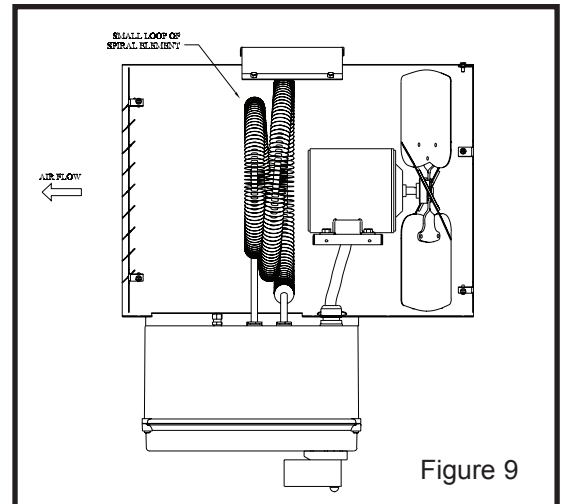

Figure 9
3. Install factory-supplied replacement elements such that the smallest loop of the spiral element is closest to the discharge end of the heater (see figure 9). Ensure that the element gaskets are in place and in good condition. Tighten the element bushing nuts until the gaskets are snug between the bushing shoulders and enclosure. Compress the gaskets by turning the nuts 1 to 11/4 additional turns. Check that the elements are not in contact with the cabinet or each other.